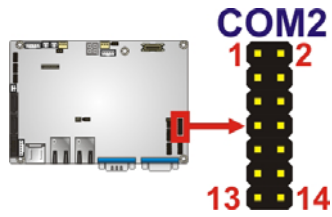

Figure 3-15: RS-232/422/485 Serial Port Connector Location
- CN Location:** See **Figure 3-15**